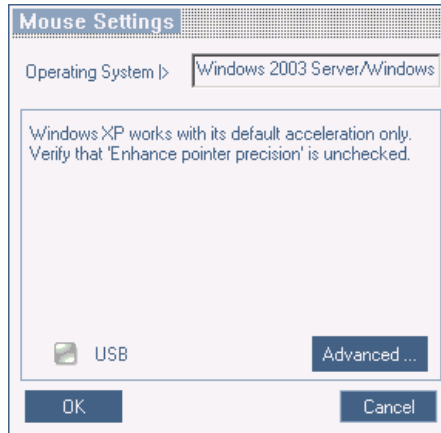

Figure 26 Mouse Settings Dialog box
1. From the Toolbar click  / **Manual Settings**. The **Mouse Settings** Dialog box appears see Figure 26.